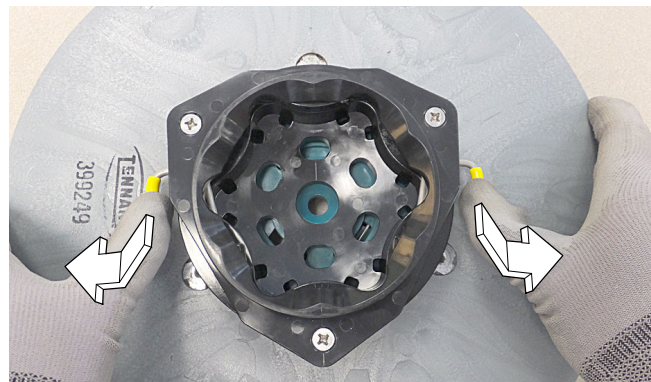

FIG. 10
3. Set the yellow spring clips to the open position to make brush installation easier. Press clips down and outward to set (Figure 10).